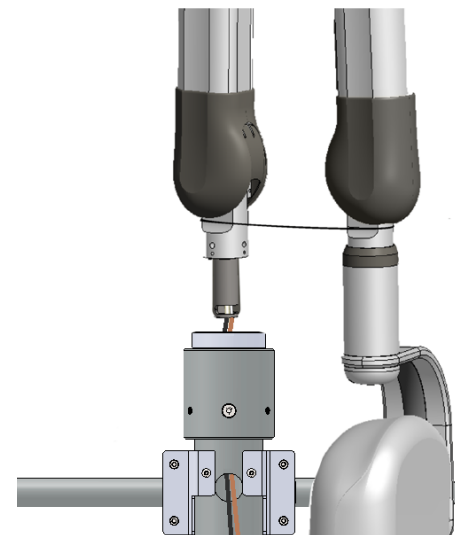

Figure 92
- Hold the scissor arm firmly with both hands and slowly lift it (Figure 92) simultaneously pulling the extra length of cable out of the Base Unit and base column carefully.